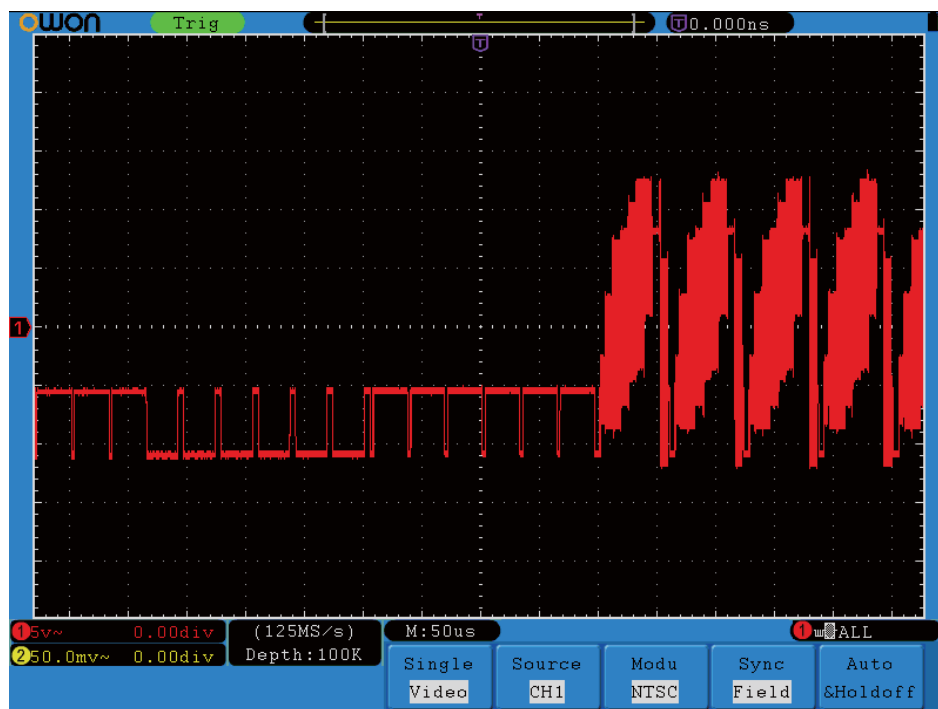

Fig.6-7 Waveform Obtained from Video Field Trigger
10. Adjust the **VOLTS/DIV**, **VERTICAL POSITION** and **SEC/DIV** knobs to obtain a proper waveform display (see **Fig.6-7**).